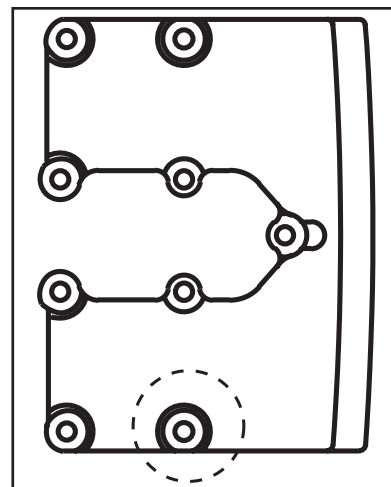

Figure 3
- Some rocker housings require 5/16 -18 x 11/2" bolts in rear, cam side position of both rocker housings, others utilize 5/16 -18 x 21/2" bolts in all locations. See **Figure 3**, below. S&S kit includes both lengths. Extra 11/2" or 21/2" bolts will not be used. All rocker housings utilize 11/2" bolt in center location between pushrods.
- e. Determine whether 1½" or 2½" bolt is required in rear, camside position (See **Figure 3, page 2**) and discard other. Place required bolt with remaining ⅝" -18 x 2½" bolts and apply threadlocker to threads of each. Install and tighten in X-pattern to 15-18 ft-lbs. See **Picture 4.**